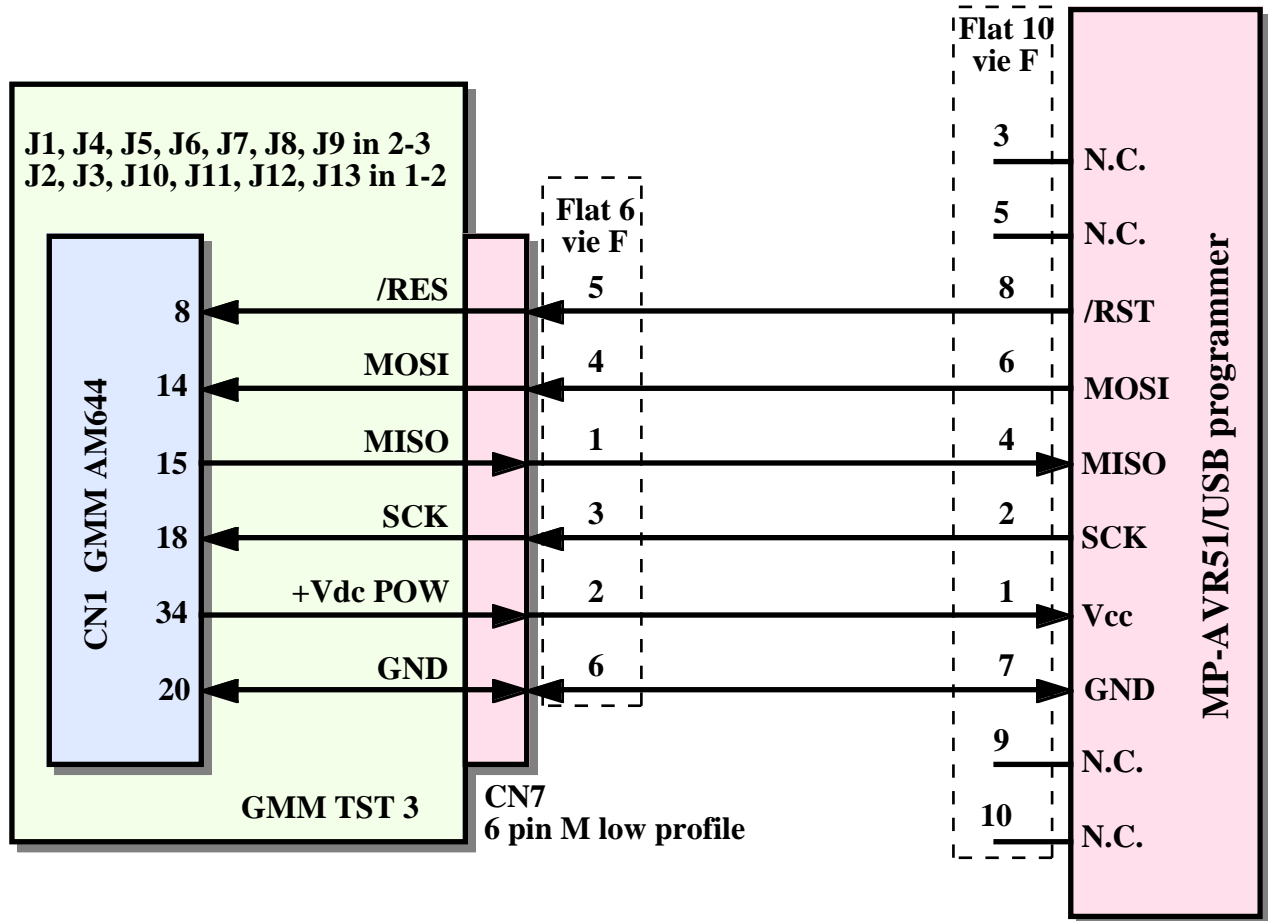

FIGURE D11: MP-AVR51/USB CONNECTION
- d) Connect the **MP-AVR51/USB** to the ISP interface of the **GMM AM 644**, paying attention to connect the 6 signals of the same one, as you can see in the figure D11. If the user has a **GMM TST 3** the connection will happen on the CN7 connector, by interposing a proper wire adaptor which is able to adapt the two connectors provided with a different pin out. It also will have to configure the jumpers of the **GMM TST 3** properly, as you can see in the following figure.
- e) As it is shown in the figure D11 the ISP interface uses 4 signals of the Mini Mode and its electricity supply. For this reason, during the use of the **MP-AVR51/USB** the signals connected to the pin 8, 14, 15, 18 of the socket can't be used by the user.